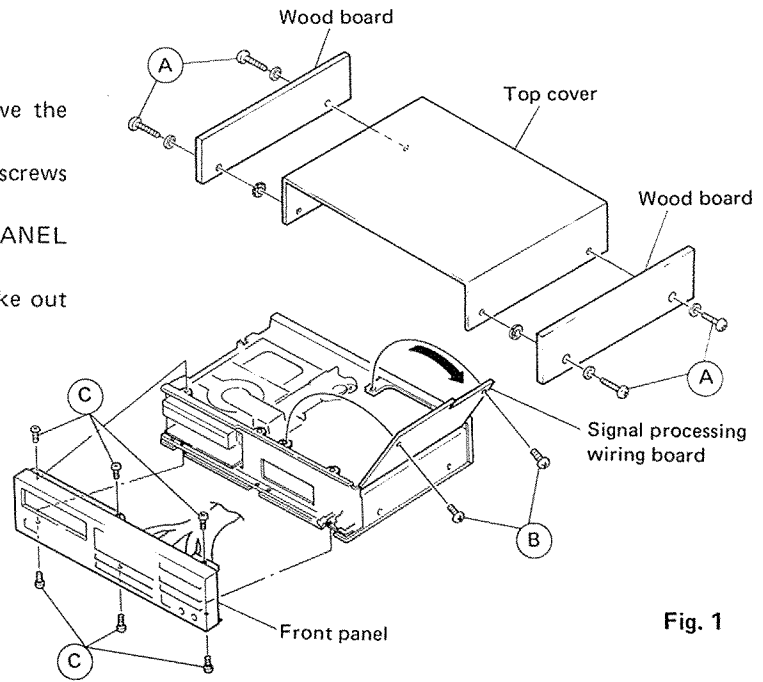

Fig. 1
1. How to remove "TOP COVER" and FRONT PANEL. (Fig. 1)